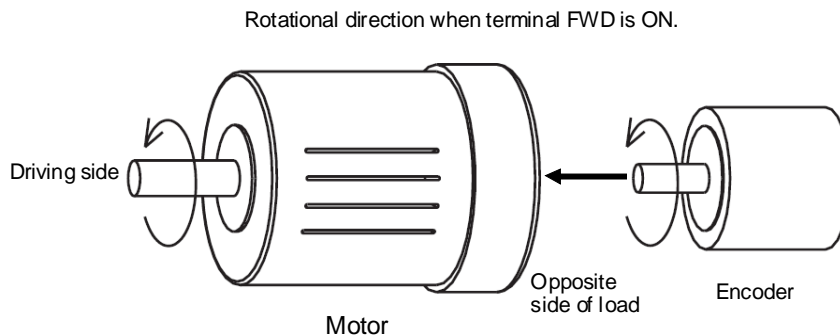

Figure 3.1 Motor and encoder rotational direction when terminal FWD is ON
The encoder shall rotate in the direction of Figure 3.1, when terminal FWD is ON.
- 📖 If the encoder is installed to the motor in opposite side of load and the inverter and the motor are wired with UVW order, in the case of JEC standard motor, the rotation is same as shown in Figure 3.1. However in the case of IEC standard motor, the rotation direction becomes opposite. In the case of IEC standard motor, interchange V with W of inverter output and make the motor and encoder rotation direction as shown in Figure 3.1.